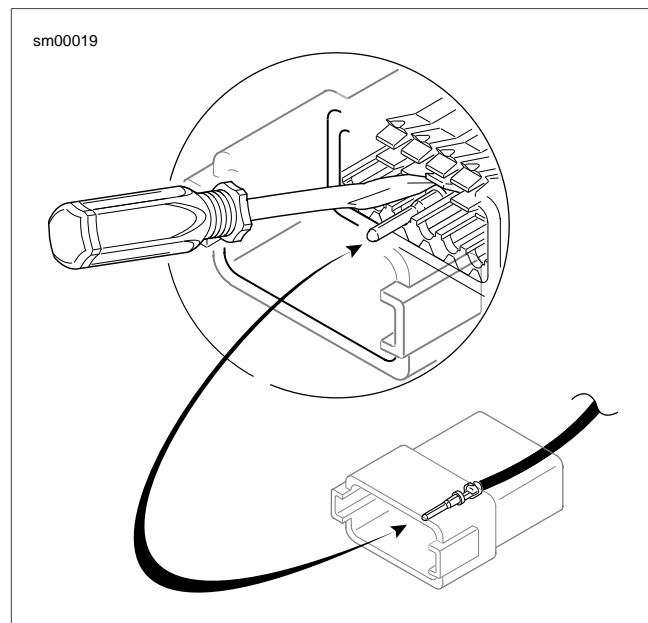

Figure A-17. Deutsch Connector: Depress Terminal Latch and Back Out Pin
- See Figure A-17. Use a pick or small screwdriver to depress terminal latches inside socket housing and back out sockets through holes in rear wire seal.